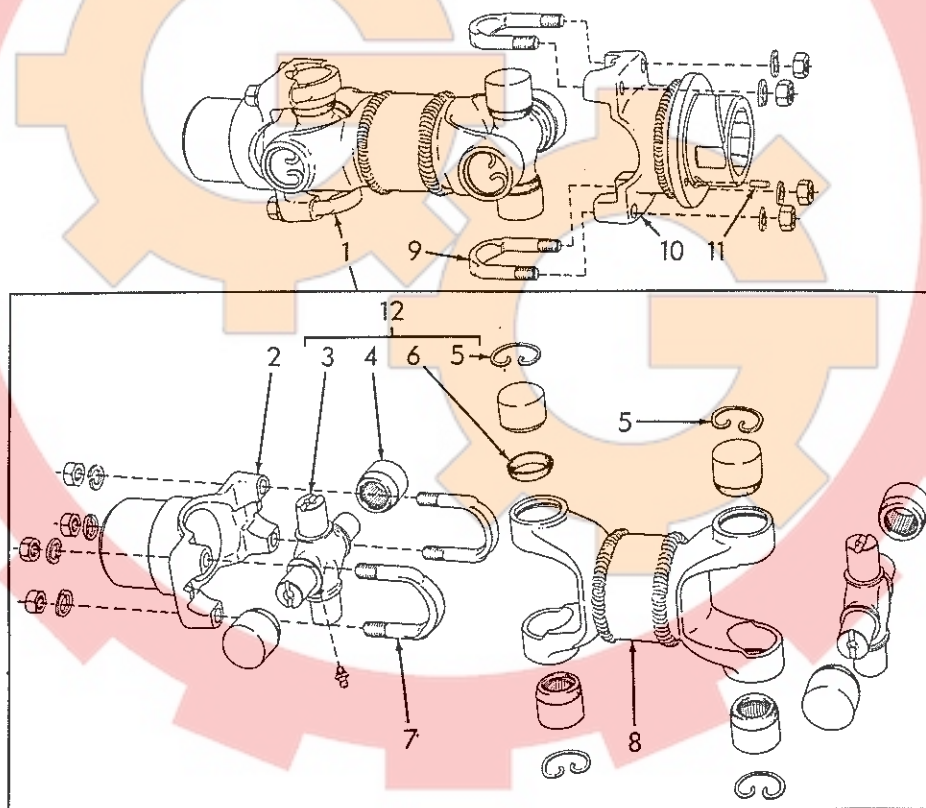
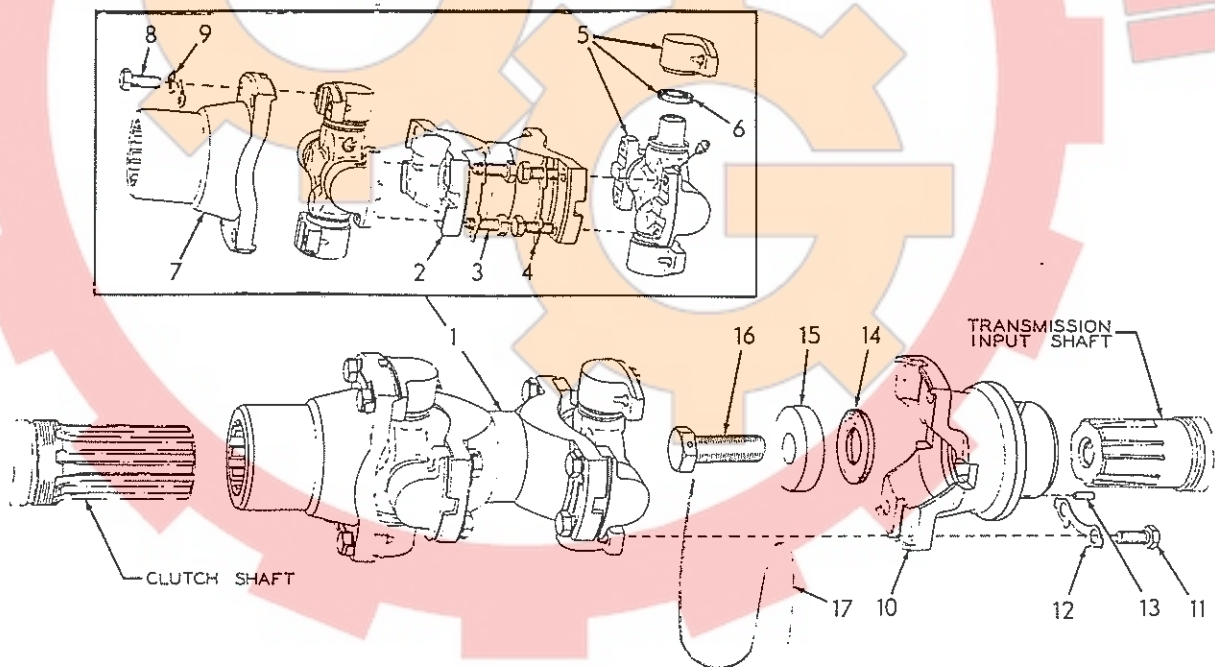

Fig. 23 "Spicer" Universal Joint Assembly
Fig. 24 "Mechanics" Universal Joint Assembly
"Spicer" universal joint, Fig. 23 used on following models: Tractor Serial No. 7191 thru 8190; Tractor Serial No. 9773 thru 10171. "Mechanics" universal joint, Fig. 24, used on all other models. Use applicable repair procedure.
- b. Remove U-bolts, Fig. 23 (9) from front and rear yokes; remove bearing caps held in position by U-bolts. Pry front yoke forward and remove universal joint.
- c. Put universal joint in a vise; remove snap rings, Fig. 23 (5). Drive spider one direction until opposite bearing cap may be removed; repeat operation on other side and other end to remove all bearing caps.
- a. Coat needle bearings with grease to hold them in position in bearing caps; start two bearing caps, Fig. 23 (4) in holes in one end of shaft (8). Install shaft in vise; close vise until bearing
caps are approximately half in their holes. Install gasket, Fig. 23 (6) on two opposing bearing journals on cross journal (3); install cross journal in shaft, centered between bearing caps. Close vise to press bearing caps on cross journal; turn cross journal while closing vise to make certain bearing caps are properly aligned. Remove shaft from vise; drive each bearing cap down until snap rings (5) can be installed.
- c. Install gasket Fig. 23 (6) and bearing cap (4) on other bearing journals; attach shaft assembly to front and rear yokes. Torque U-bolt nuts to 20 to 24 lbs. ft.
- b. Refer to Fig. 24, unlock and remove capscrews attaching universal joint to front and rear yokes; pry front yoke forward and remove universal joint.
- c. Refer to Fig. 24, unlock and remove capscrews (3); remove front and rear spider assemblies (5) from connecting yoke (2).
- a. Refer to Fig. 24, install new seal washer (6) in each bearing cap; lubricate bearings with light coat of grease and install bearing caps on